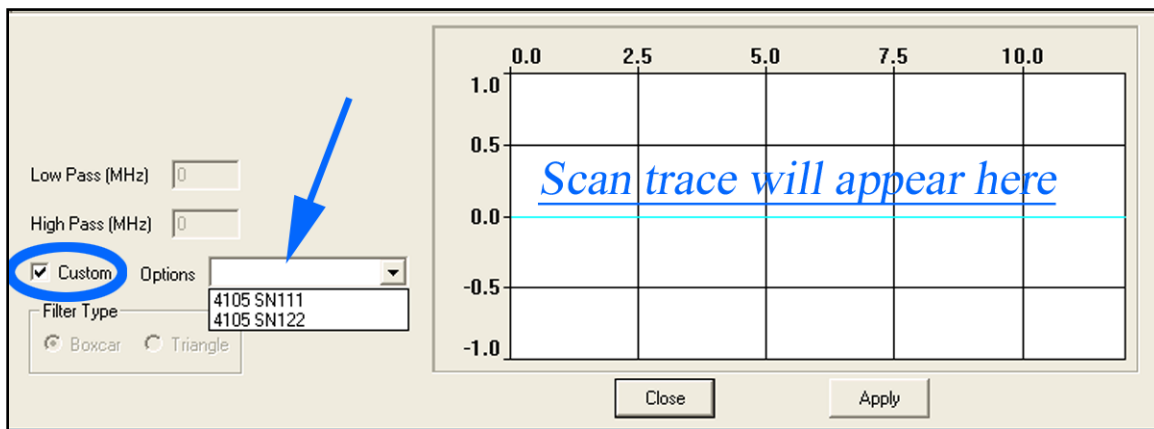

Figure 44: FIR filter selection window.
- a) Once the “stopwatch” finishes and the antenna has initialized, you will need to apply the custom FIR filter. Click on the FIR filter button, , or select Process>FIR Filter. You will see the window in Figure 44.